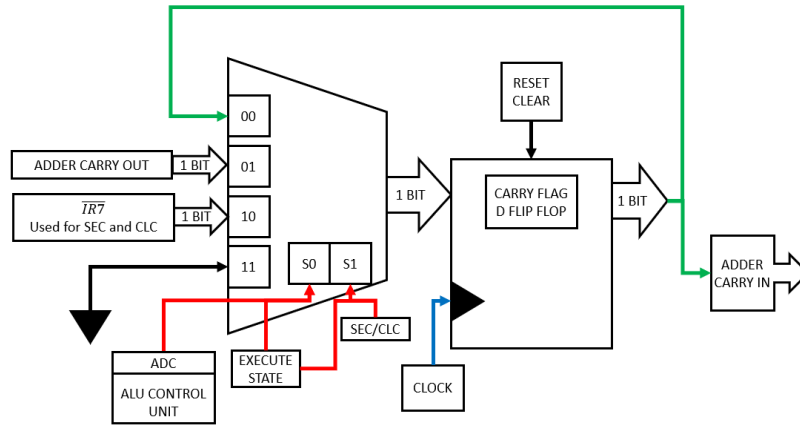

Figure 11: The C flag update sub-system.
The Carry (C) flag, which is the other status bit can be updated using the set and clear carry flag instructions, as seen in Figure 1, or after the add instruction. Figure 11 shows the carry flag update sub-system block diagram.